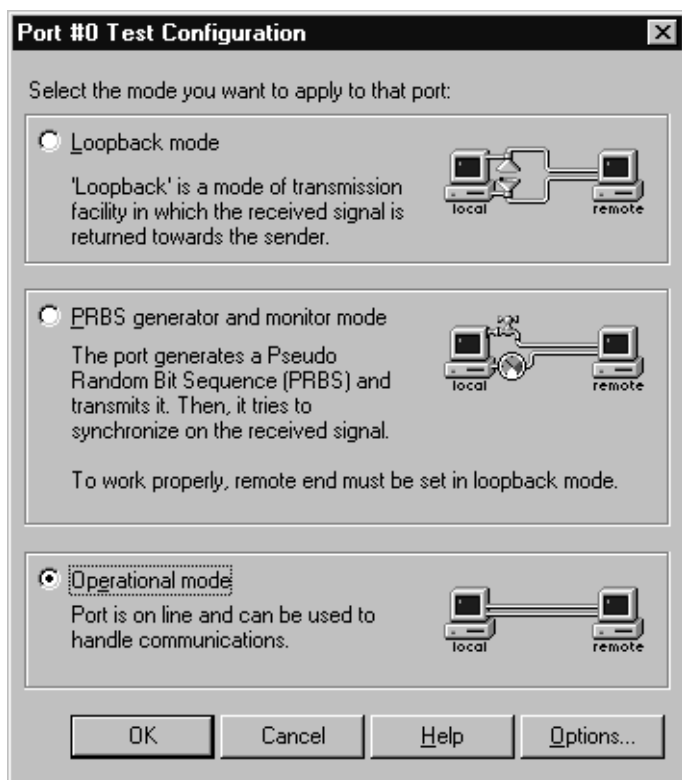

Figure D-2. Port Test Configuration Dialog Box
1. Select **Loopback mode** on the Port Test Configuration dialog box (shown in Figure D-2 on page 165).
To select this mode, select **PRBS Generator and Monitor mode** on the Port Test Configuration dialog box (shown in Figure D-2 on page 165).
To return the port to Operational mode, select **Operational mode** on the Port Test Configuration dialog box (shown in Figure D-2 on page 165).
1. Click **Options** on the Port Test Configuration dialog box (shown in Figure D-2 on page 165).